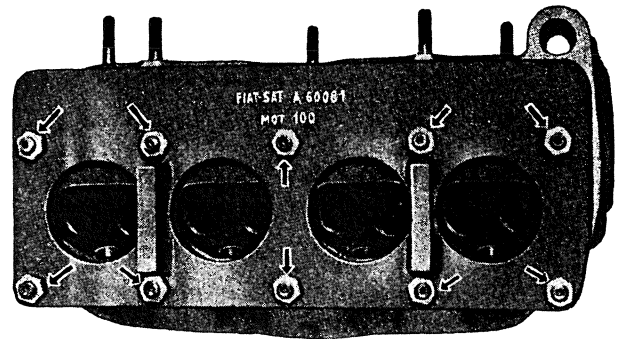

Fig. 90 - Installation of fixture A. 60081 for cylinder head hydraulic sealing test.
1. Pipe with connection and cock. - 2. Water outlet plug. Arrows point to mounting screws of fixture shown in fig. 90.